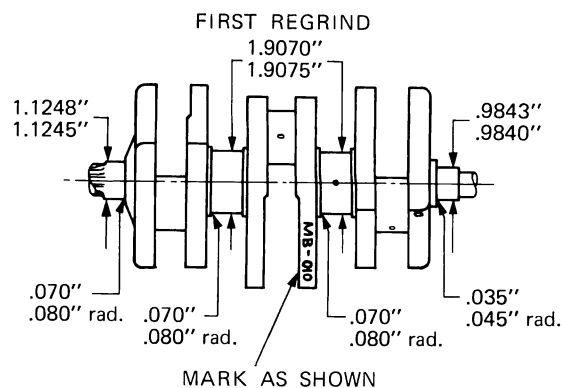

Fig. 13-14 Regrinding instructions for typical one-piece crankshaft (Triumph Norton Incorporated)
**Servicing One-Piece Crankshafts.** After splitting the crankcases carefully, using the procedures outlined in the manual, you are ready to remove the connecting rods from the crankshaft. Again, be sure to keep the rods in order and mark each cap and rod so that it is replaced exactly as it was removed. Examine the bearings for scratches and embedded dirt. Check the crankshaft journals for scores or scratches. English crankshafts can be reground at a crankshaft shop to correct most scratches and scores, but a badly damaged Honda four-cylinder crankshaft must be replaced (Fig. 13-14). Whichever course of action your manual calls for, do it.